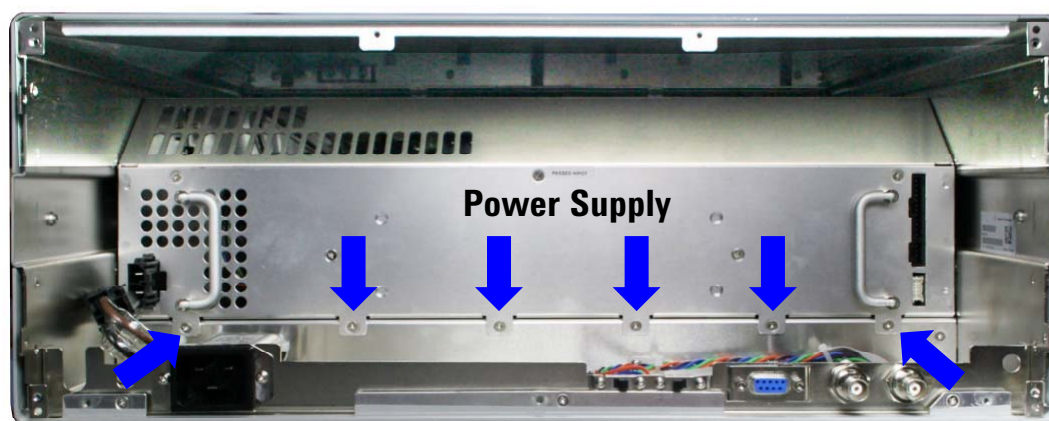

Figure 86 Remove the six highlighted power supply screws
- 6 The power supply is held in place by the six screws shown in Figure 86. Remove these screws. At this point, the power supply should be ready to be removed from the chassis – verify that all connectors and all screws have been removed from the power supply.
- 3 Insert the six screws shown in Figure 86 and tighten securely.